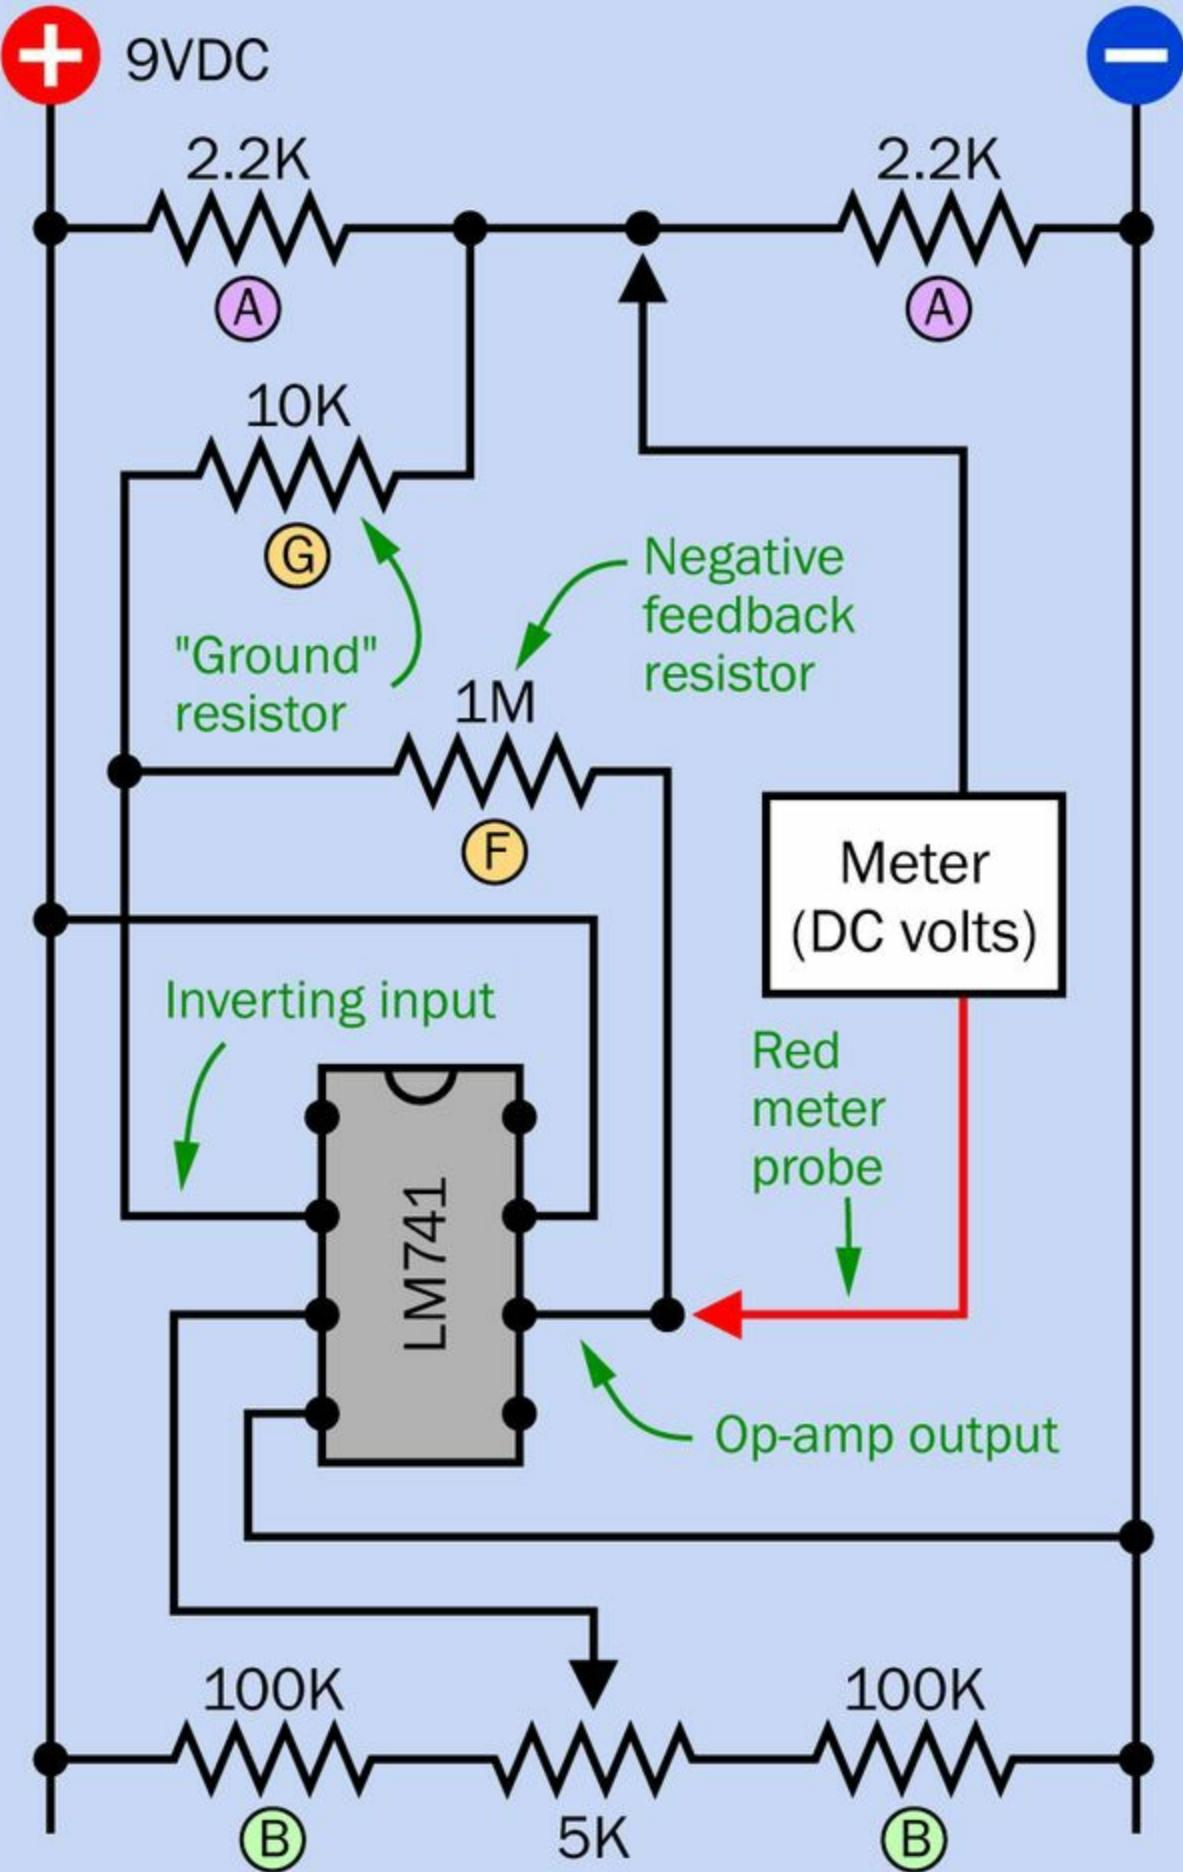
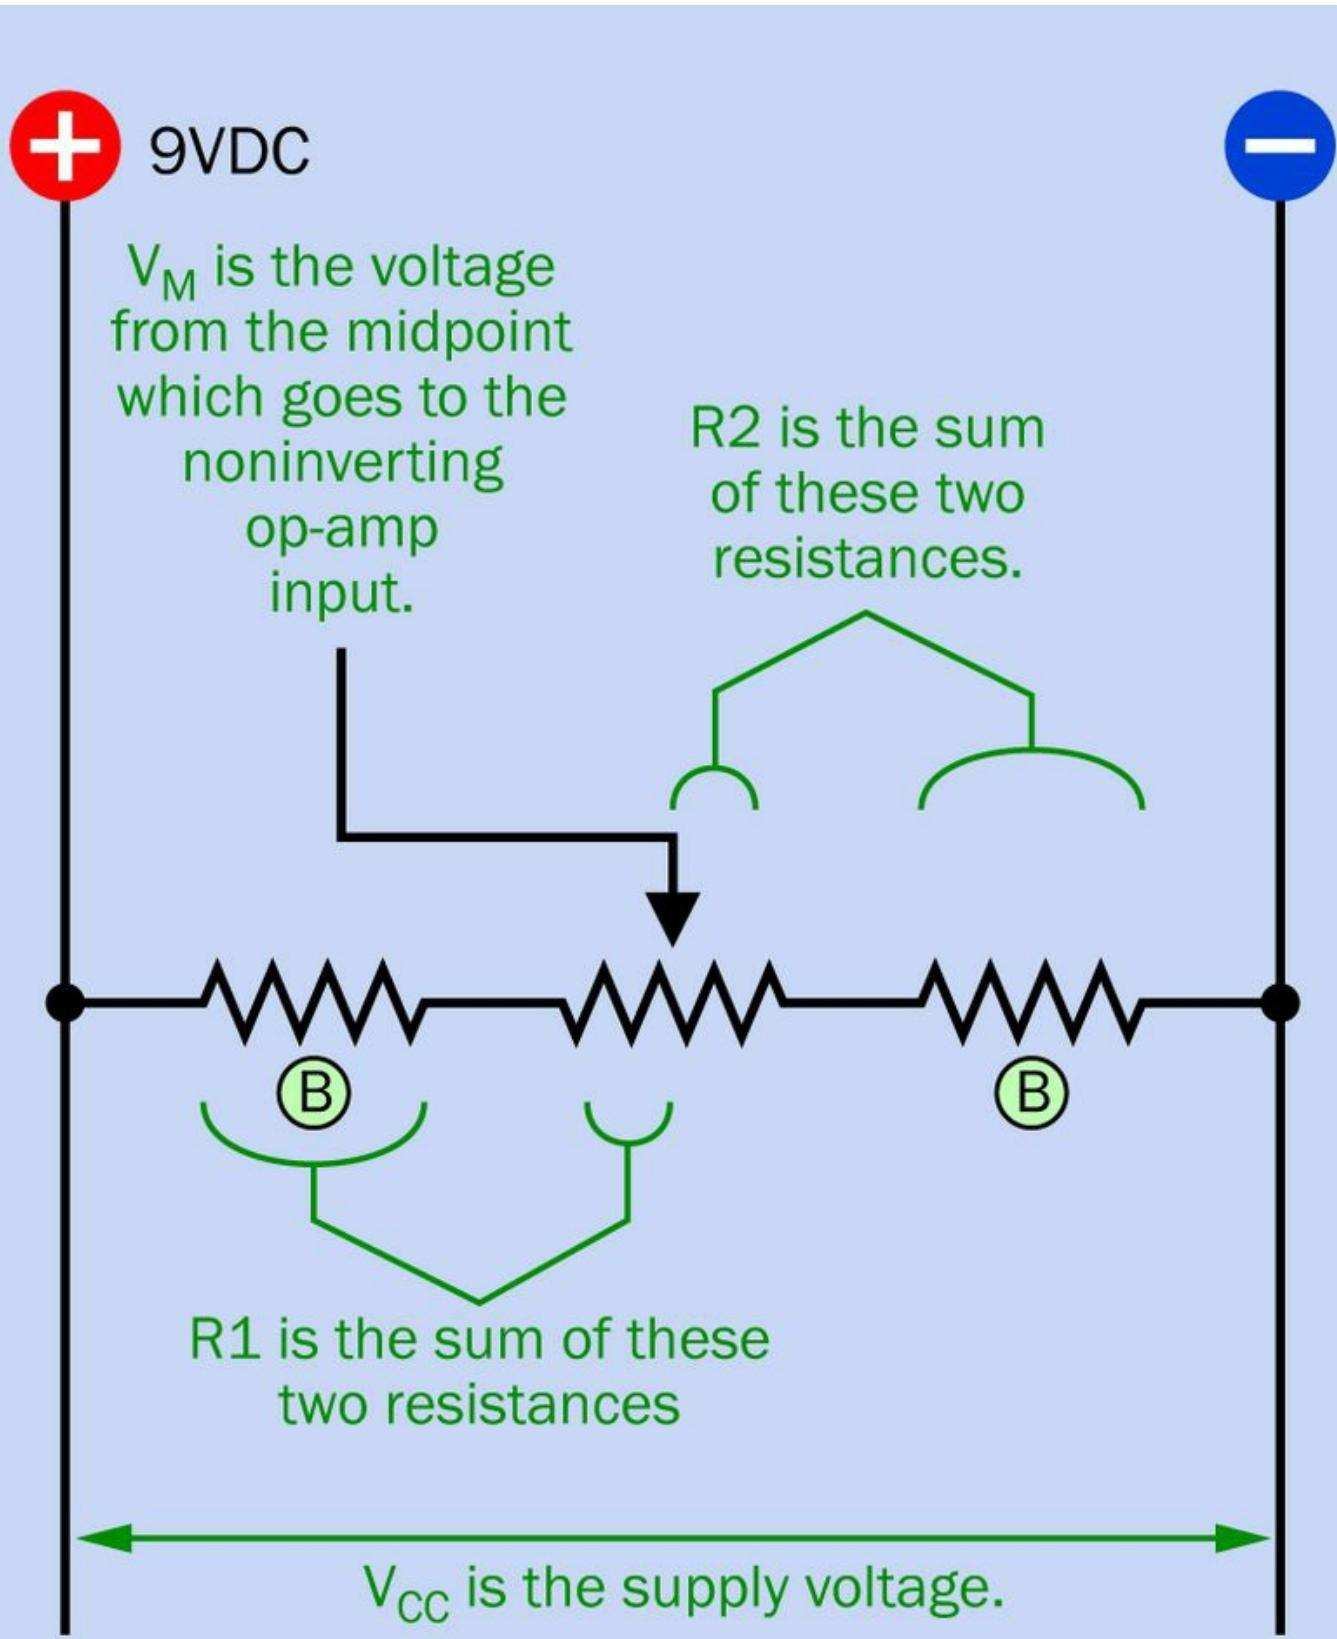

Figure 11-4. The previous schematic has been modified to introduce negative feedback, by adding two new resistors.
Figure 11-9. The voltage to the noninverting input of the op-amp can be calculated if you know the values shown above.
- Add two more resistors, identified as “F” and “G” in Figure 11-4. The photograph in Figure 11-5 shows how this can be breadboarded.
There is an additional factor, here, which is the grounding resistor, labelled G in Figure 11-4. This diverts some of the negative feedback to the midpoint of the “A” voltage divider. In other words:
Figure 11-8 shows some input voltages and output voltages that I measured myself, for various settings of the trimmer potentiometer in the circuit in Figure 11-4. These were the numbers that I used to draw the graphs in Figure 11-3. Then I used the graphs to calculate the gain of my op-amp.
Pull the trimmer out of the circuit and measure the resistance between its wiper (the center terminal) and the terminal that connects with the righthand 100K "B" resistor, on the negative side. (See Figure 11-4.) Adjust the trimmer until you measure 1.5K (1,500 ohms).
Measure the voltage of the op-amp output by resetting your meter to DC volts and positioning the probes, as shown in Figure 11-4. Make sure you have the red probe and the black probe in the positions shown. Take care to observe if there is a minus sign before the digits.
You can calculate the input voltage from the resistances and the supply voltage. This would all seem very easy if I could demonstrate it for you with a meter on a lab bench. I can't, so the next-best way is to show you in a diagram, which I have drawn in Figure 11-9. This is a piece of the circuit from Figure 11-4 that contains the "B" voltage divider.